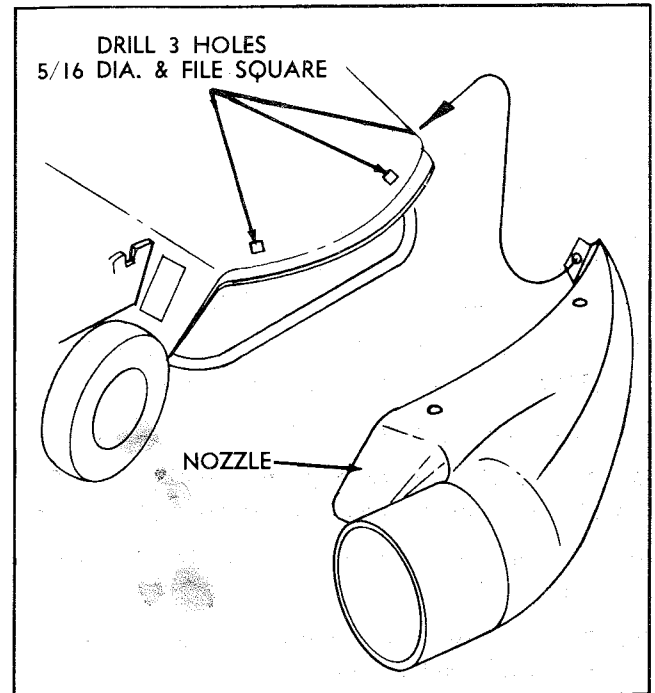

FIGURE 7
11. Place Nozzle on mower deck. Mark location for holes. Drill three (3) $\frac{5}{16}$ Dia. holes and file out to square for $\frac{5}{16}$ -18 Carriage Bolts and secure with nuts. See Figure 7.